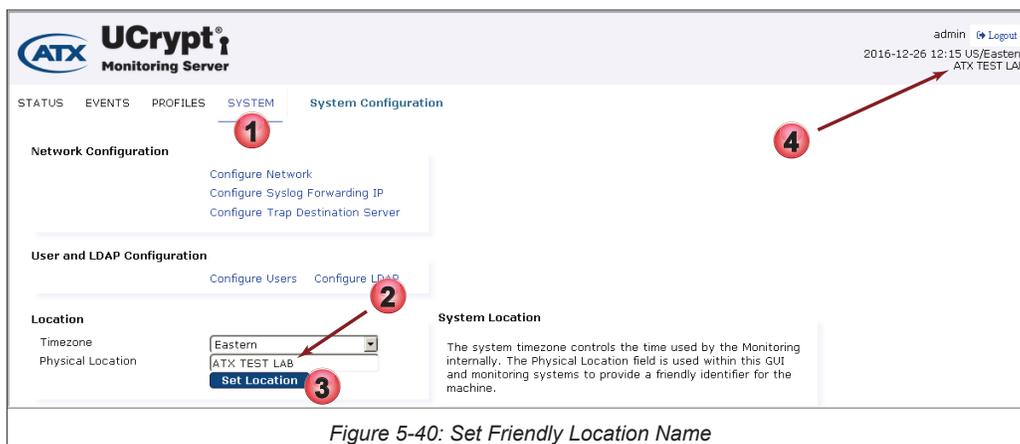

Figure 5-40: Set Friendly Location Name
1. Click the **System** tab if it isn't already selected, Figure 5-40.